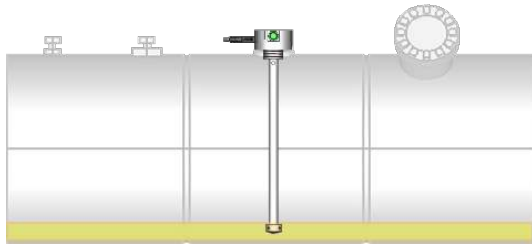

Figure 21: Low Level Calibration
- For Low Calibration, empty the fuel to a level such that only 10mm of the probe is dipped in the fuel. (Refer to Figure 21.)